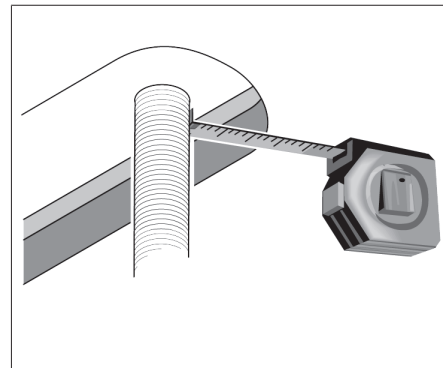

Fig. 14 Distance of exhaust pipe from seal and vehicle floor
- After the heater is installed the exhaust pipe must be at a minimum distance of 1 in (25 mm) from the seal and the vehicle floor. See Fig. 14.